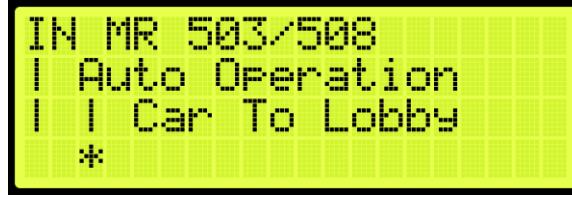

Figure 391: Category and Input
8. Scroll and select the desired input or output. Figure 391 shows the Auto Operation category to assign Car to Lobby to an unused input.
4. Scroll and select the input or output to be removed (See Figure 391).